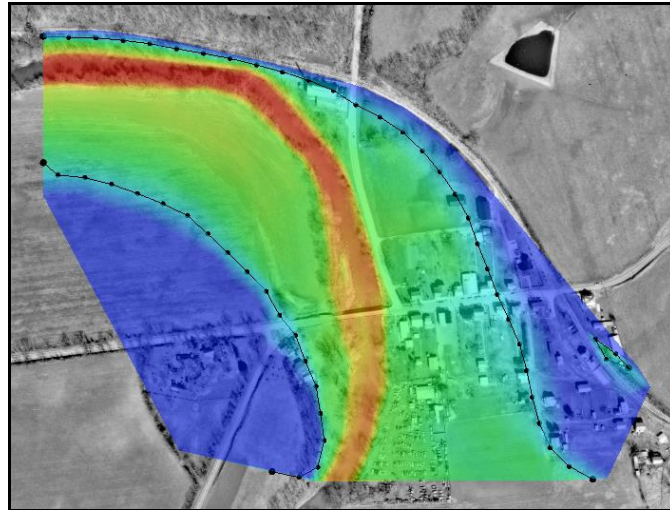

Figure 3 Contours with arcs
6. Click **OK** to close the *Create Contour Arcs* dialog and generate arcs along the 330 foot contour. The resulting arcs run along the length of Double Pipe Creek (Figure 3).